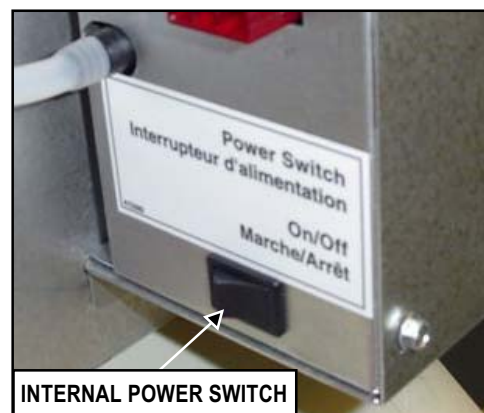

Figure 25.
2. Open the access doors. Set power switch to "OFF", (see Figure 25).